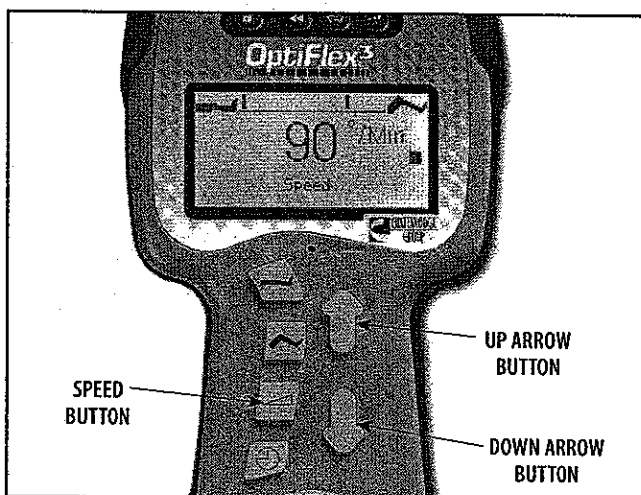

FIGURE 5.7
8. Press and hold the Speed button. While holding the Speed button down press the Up or Down Arrow button until 90° /Min is displayed on the Pendant. See Figure 5.7.